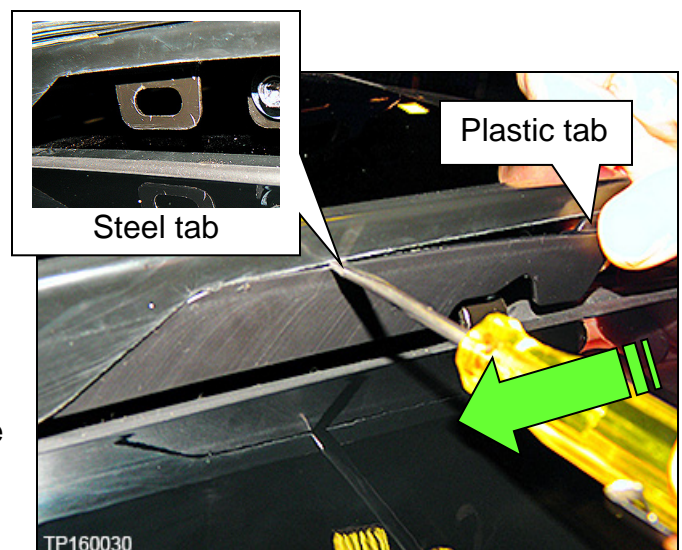

Figure 42
- c. Insert a pocket screw driver between the Moonroof bolt finisher and the Moonroof near the plastic tab (Figure 42).
- d. Apply a slight downward force to the plastic tab end of the Moonroof bolt finisher until the hole through the steel tab can be seen (Figure 42).
- e. Slide the pocket screw driver from the plastic tab up to the hole in the steel tab that the Moonroof release clip is connected to (Figure 42).